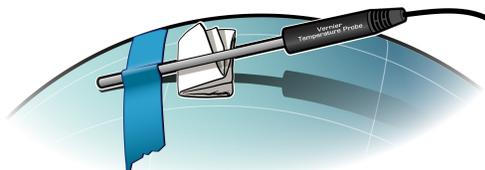

Figure 3
- c. Fold a piece of paper and wedge it under the Temperature Probe to keep the tip of the Temperature Probe in contact with the surface of the globe as shown in Figure 3.